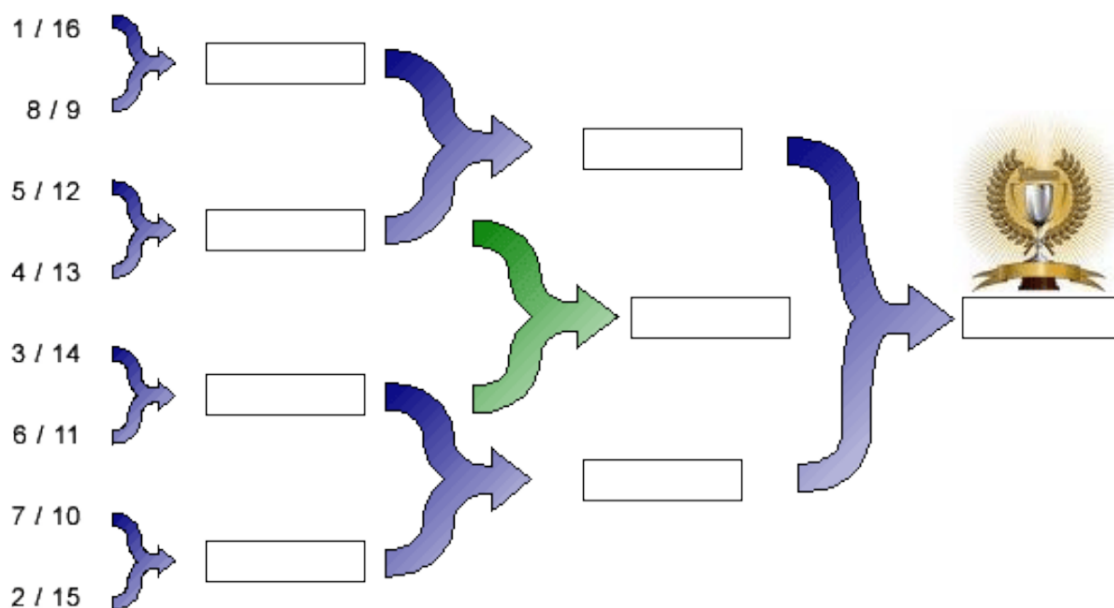

Figure 14 – Example of the tree for the final phase
Each team that wins its play-off match will be included in the main draw of the final phase of the match (B). At the end of the play-off phase, the tree of the final phase of the match (B) presented in Figure 14 may be revised to more accurately represent the level of each team.